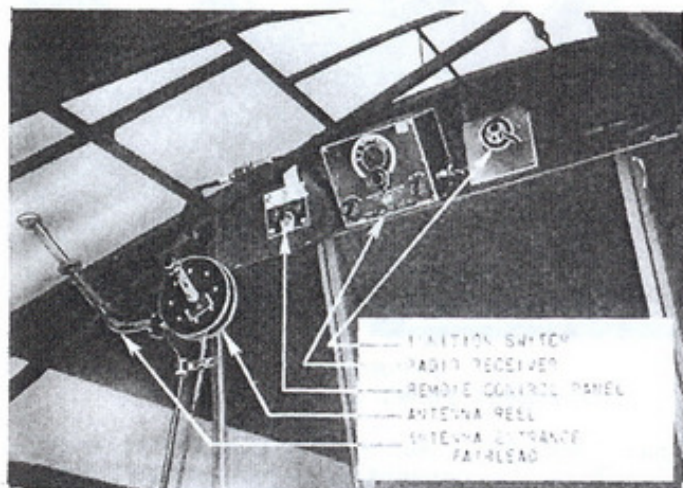

Figure 11 -
d. The Upper Left Side. (See figures 11 and 12.) - On the model L-4A the upper left side bears the antenna entrance fairlead, the antenna reel, the remote control panel for the transmitter, the radio receiver, and the ignition switch. The switch, accessible from
a. Be sure the ignition switch is "OFF." (See figures 11 and 12.)